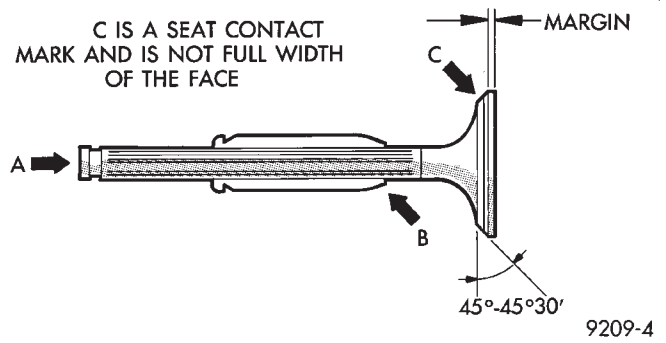

Fig. 120 Valve Inspection
- (1) Check valve stem tip for pitting or depression at point A (Fig. 120).
- (2) Check for wear and ridge wear at Point B.